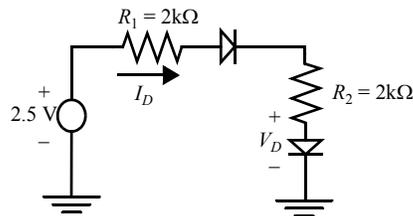

Figure 0.1 Resistor diode circuit.
- a. Consider the circuit of Figure 0.1. Using the simple model, with  $V_{Don} = 0.7\text{ V}$ , solve for  $I_D$ .